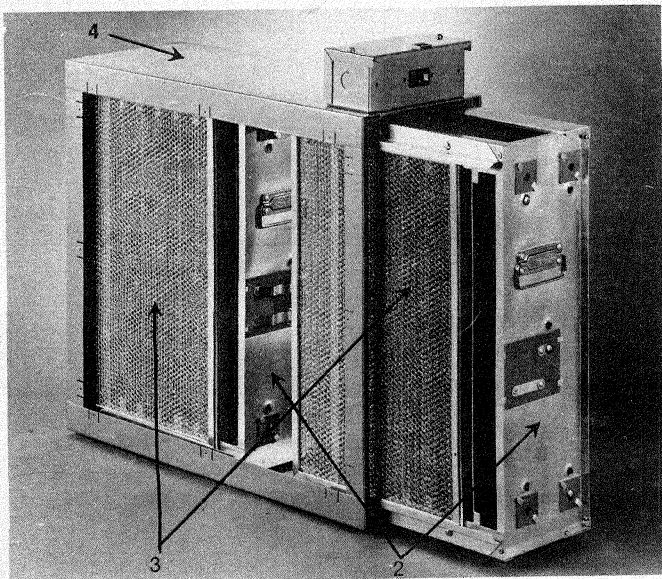

FIG. 2
2. Collecting Cells (2)—(Fig. 2) These all aluminum components consist of an ionizing section that contains fine tungsten ionizing wires suspended between electrodes; and a collecting section that contains a series of parallel aluminum plates.
3. Pre-filters (2)—(Fig. 2) These filters are designed to keep lint and large particles out of the collecting cell.
4. Cabinet—(Fig. 2) Constructed of 18 gauge galvanized steel to resist rust and corrosion. Tabs are provided to facilitate mounting to a collar on the air handling equipment.